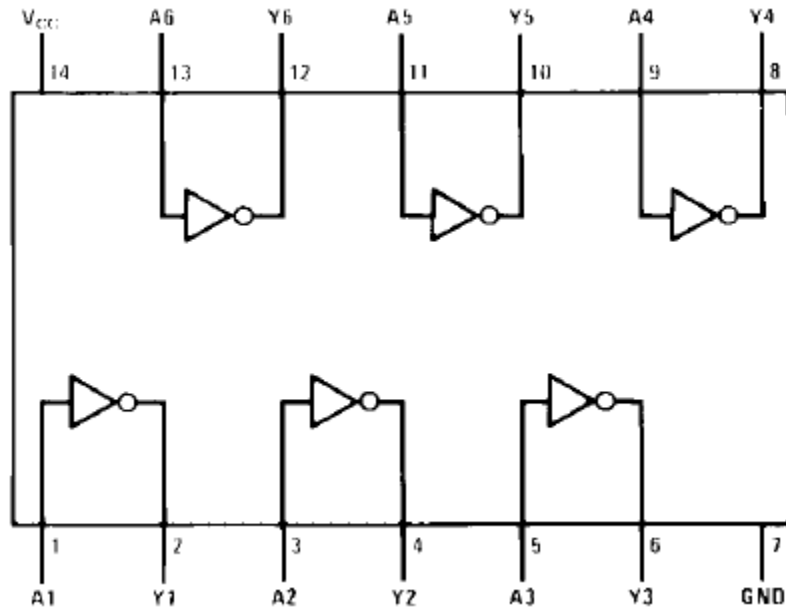

Figure 9
**NOTE:** There are six NOT gates inside the 74LS04 IC (Figure 9).